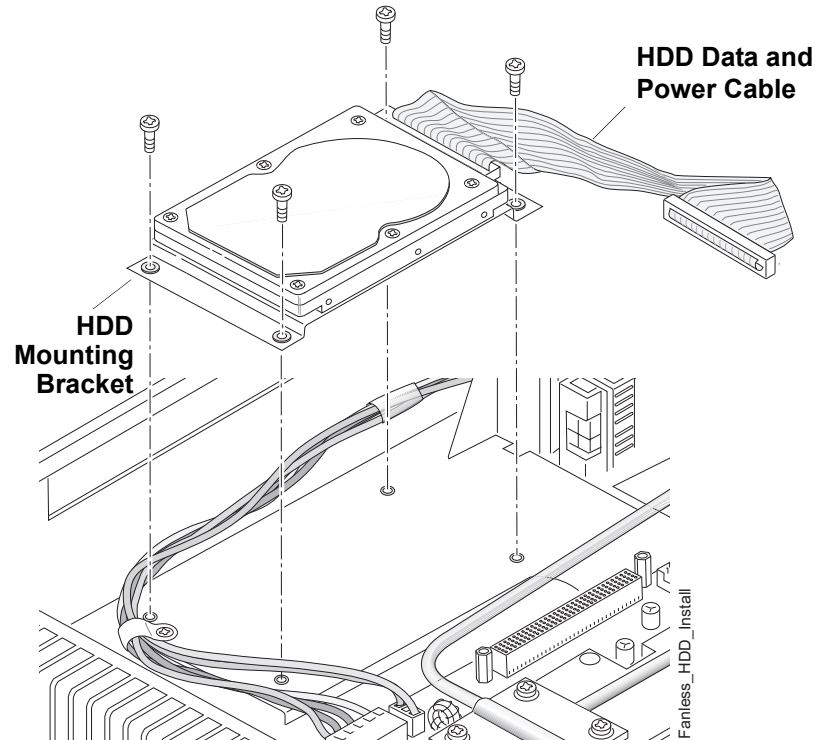

Figure 2-2. Exploded View of HDD and Drive Bracket
1. Remove the four screws that mount the HDD to the chassis as shown in Figure 2-2.
4. Mount the bracket to the chassis using hand tension and the four mounting screws in the orientation shown in Figure 2-2 on page 13.